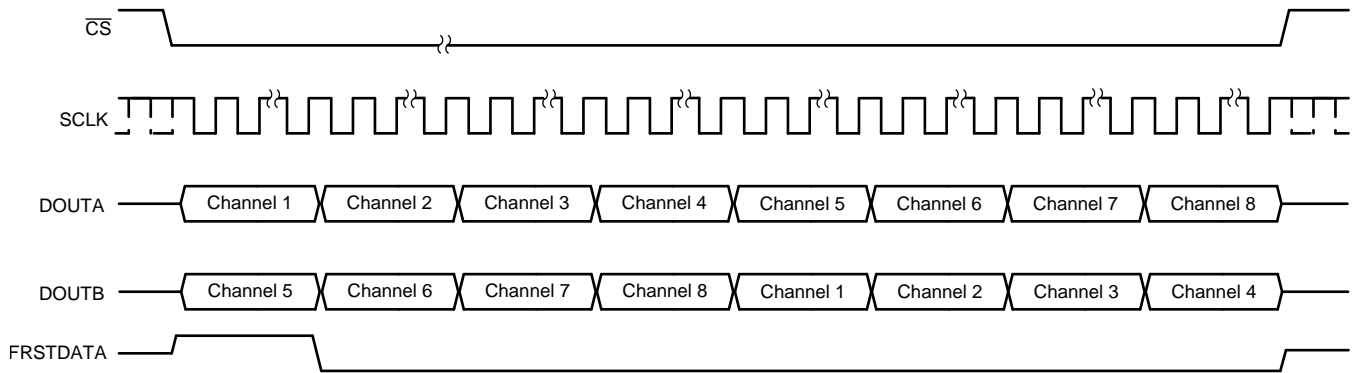

Figure 69. Data Read Back in the Serial Interface Using Either DOUTA or DOUTB Timing Diagram
- The conversion data can be read out of the device using only one of the two serial output lines, DOUTA or DOUTB. In this case, using DOUTA for output data read back is recommended because channel 1 data appear first on DOUTA followed by the data for other channels in ascending order. To read the data for all channels, provide a total of $16 \times 8 = 128$ SCLK cycles for the ADS8588S. This entire data frame can be created within a single \overline{CS} pulse or each group of 16 SCLK cycles can be individually framed by the \overline{CS} signal. The primary disadvantage of using just one data line for reading conversion data is that the throughput is reduced if a data read operation is performed after conversion. Figure 69 shows this operation.
- Alternatively, only DOUTB can be used for reading the conversion data from all channels. In this case, everything else remains the same and the output bit stream contains data for all channels in the following order: channels 5, 6, 7, 8, 1, 2, 3, and 4 for the ADS8588S. Figure 69 shows this operation.